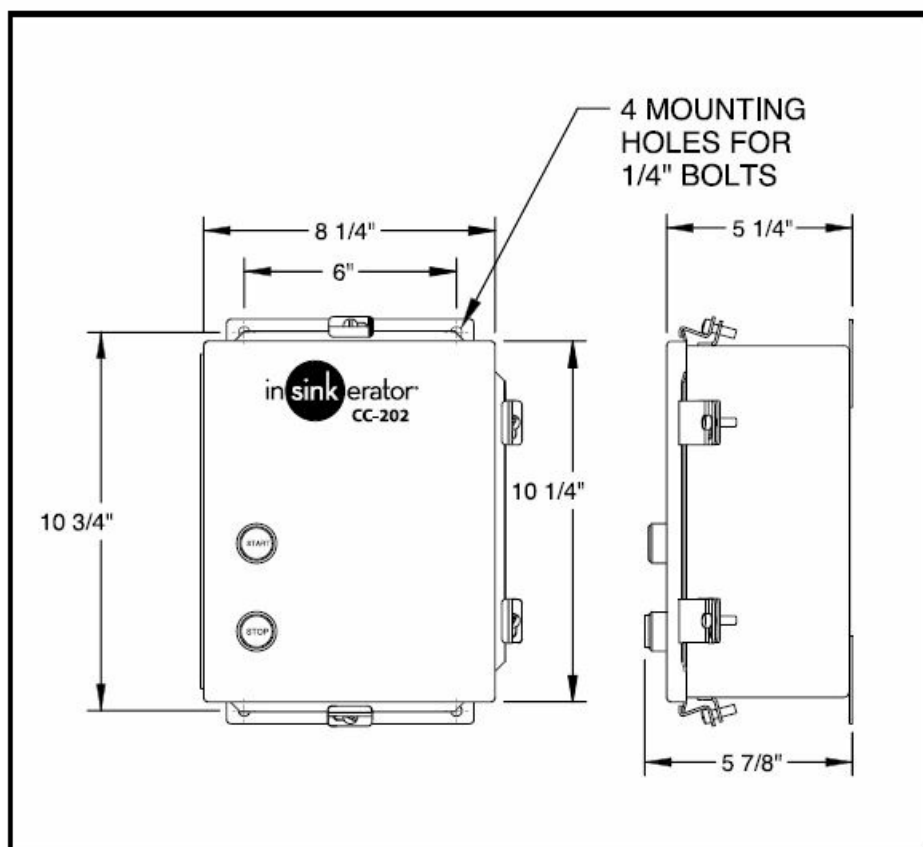

Figure 1. Control Center Dimensions
- Use the flanges at the back of the control center enclosure and only mount panel in the upright vertical position (door hinge is on the left). See Figure 1.